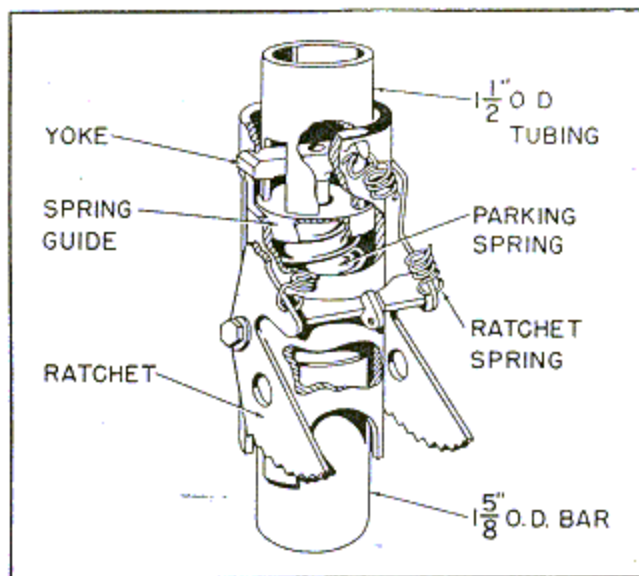

Figure 141—Removing Spring from Housing Assembly
1. Normally it will not be found necessary to remove the parking spring from the housing assembly, but if it is desired to remove the spring, proceed as follows: (See figure 141.)